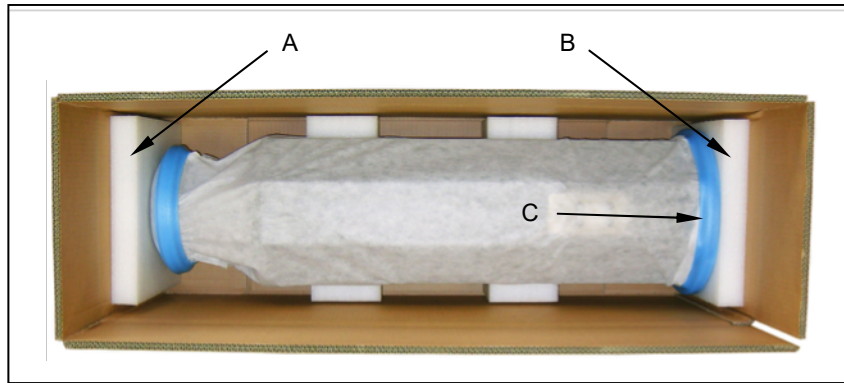

Figure 4. HRS-130 shipping carton
4. Remove the foam packing pieces from between the top and bottom of the cabinet and the carton – A and B figure 4 – then, with the help of another person, lift the loudspeaker out of the carton by holding around the top and bottom of the cabinet and stand it up on its base.
5. Remove the blue protective ring from the top of the loudspeaker and pull the white cover up and off the loudspeaker. Leave the blue ring – C figure 4 – in position for the time being, as this will protect the base of the cabinet while it is being moved.